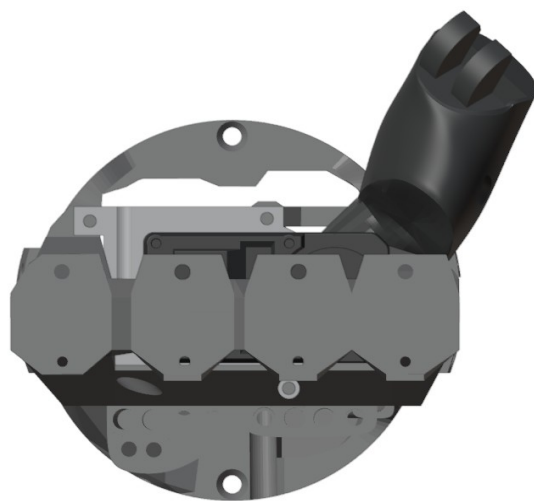

Figure 5.8: Thumb rotation servomotor registration
1. Position the thumb at approximately the middle of the range (figure 5.8).